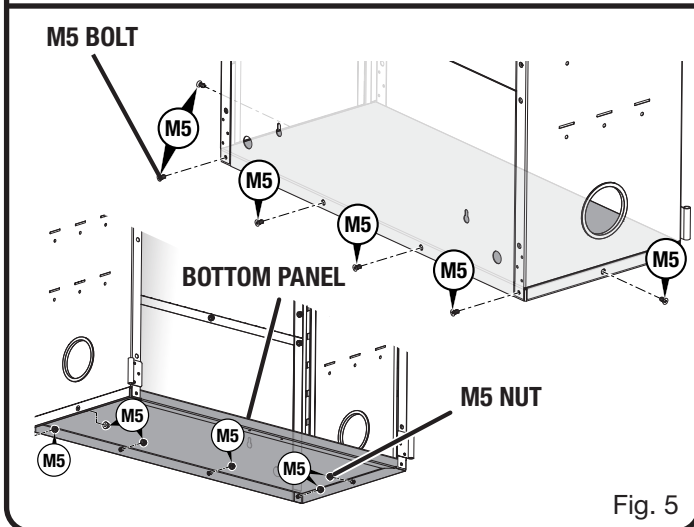

Fig. 5
- Align holes in bottom panel with holes in lower back and side panels as shown in Figure 5.
- Insert M5 bolts (6) through the side holes and back holes of the bottom panel as shown in Figure 5. Secure with M5 nuts (6).